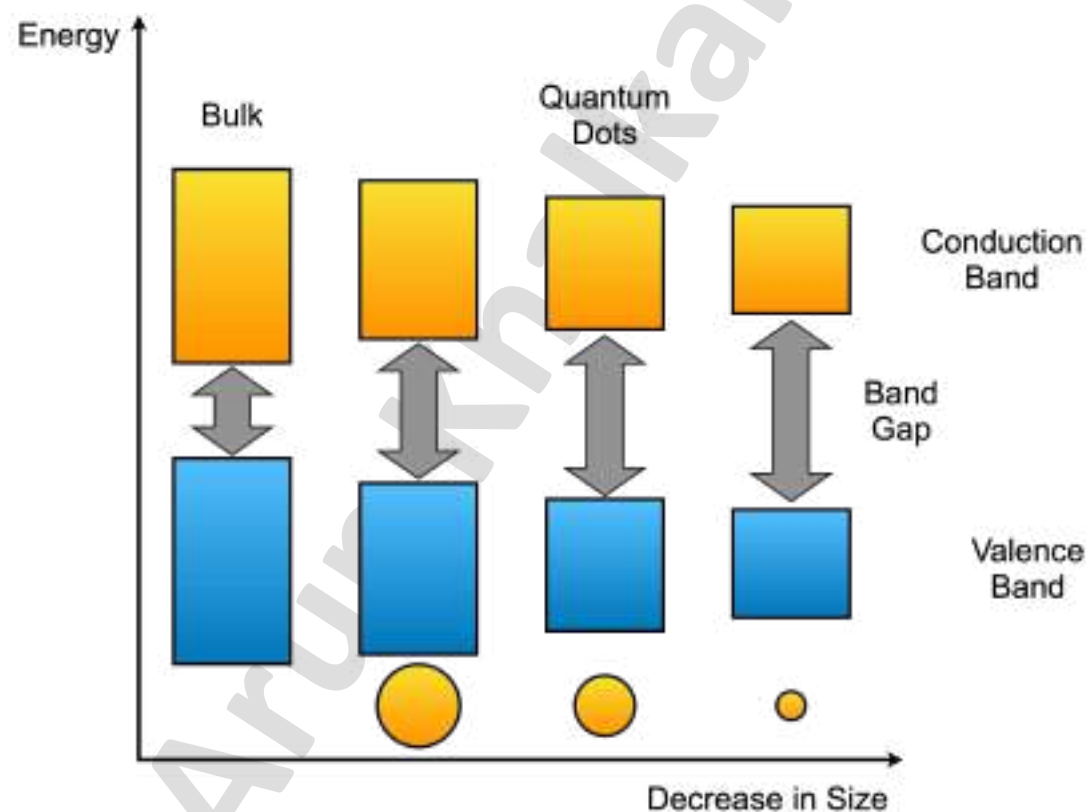

Fig. 6: The influence of particle size on the band gap of quantum dots due to quantum confinement
- However, if the material is reduced to a nanoscale size the situation changes. There are fewer atomic orbital overlapping and the valence and conduction bands are no longer continuous and are instead formed of discrete energy levels, and more importantly the band gap between the valence and conduction bands becomes wider which is known as quantum confinement as shown in Fig. 6.